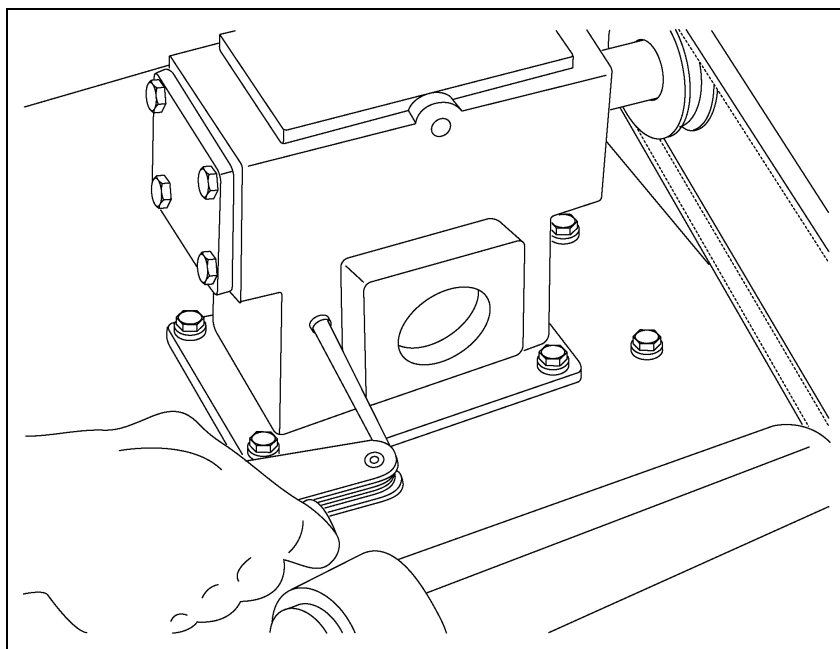

Figure 7L
10. Check the oil level in the gearbox by removing the plug and noting if the oil is at this level. Add SAE 80-90 gear lubricant if required. *(See Figure 7L.)*